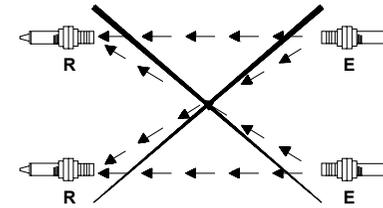
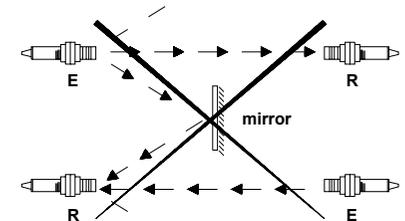

Figure 8a
Figure 8b
When mounting the sensors (emitter(E)/receiver(R) pairs) to the BWS-T2, care must be taken to position these components in such a way as not to interfere with each other. (including with the help of a mirror, see figure 8b and 8c). The layouts in figures 8a-8d are bad examples NOT to follow because they are unreliable.